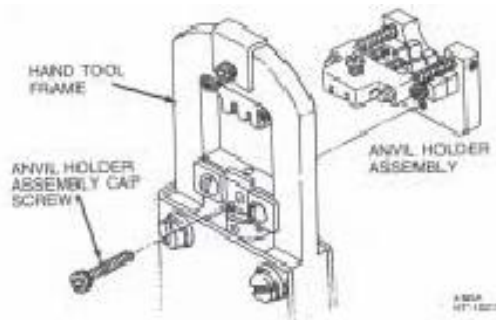

Figure 10
1. Remove the cap screw securing the anvil holder assembly to the hand tool (see Figure 10). Then remove the anvil holder assembly.